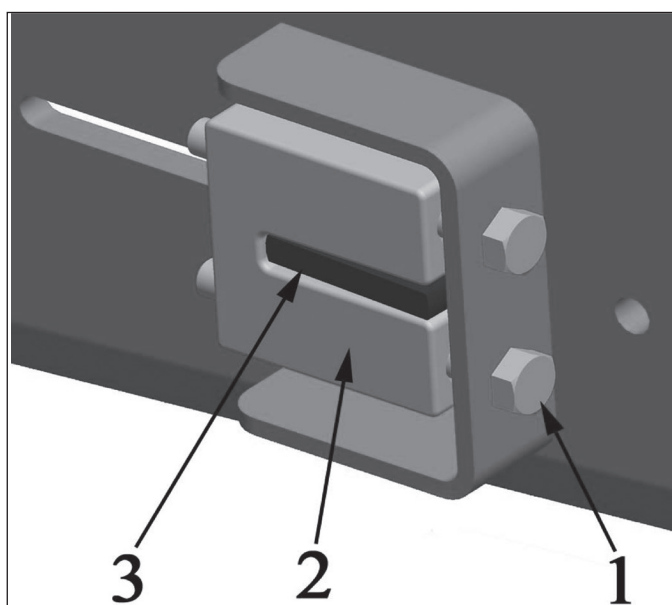

Figure 6.19 - Bottom Deck Tensioner
3. Loosen off tension bolts completely (item 1) Figure 6.19.